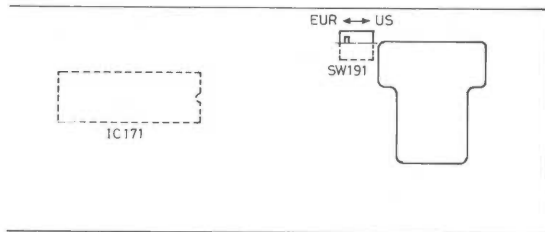

Fig.6
2. Locate CH.STEP SW191 on Display P.C.Board and set it to "EUR" for 220 V Europe frequency stepping. (See Fig.6)